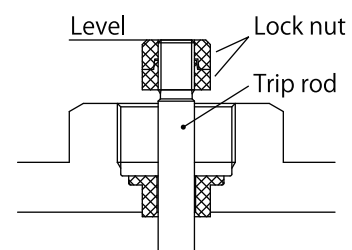

Fig.14
*Looseness of a nut of a trip rod (Fig.14)
Check four bolts securing the guide bushing for possible looseness. The looseness of these bolts may contribute to malfunction. (Fig.13 & Fig.14)
10) Assemble the trip rod and lock nuts so that the top of a rod may be flush with the top of a nut. (Fig.14)